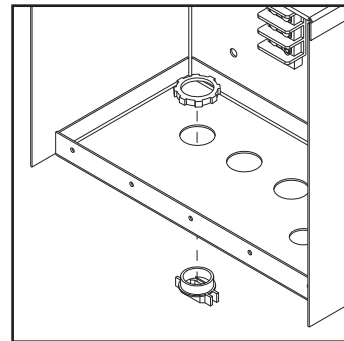

FIGURE 4
9. Remove hole plug on the bottom left side of the existing control box and install the strain relief (included). SEE FIGURE 4. **Note: Depending on model and year of light tower, a 7/8" hole may need to be drilled in bottom of unit to allow the routing of wires.**